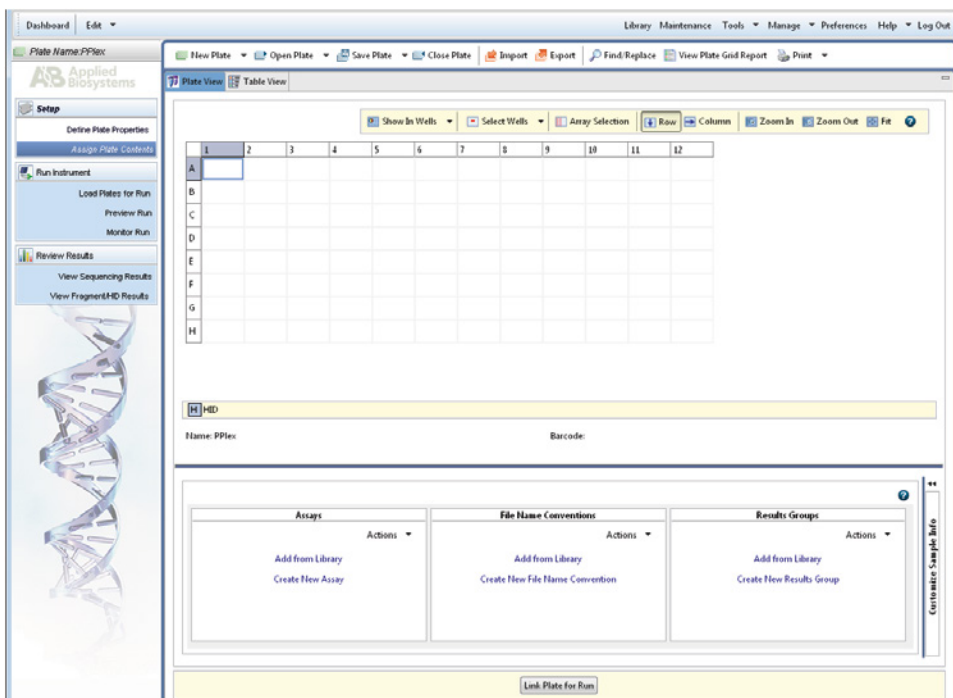

Figure 9. Assigning plate contents.
- Select **Assign Plate Contents** (Figure 9).